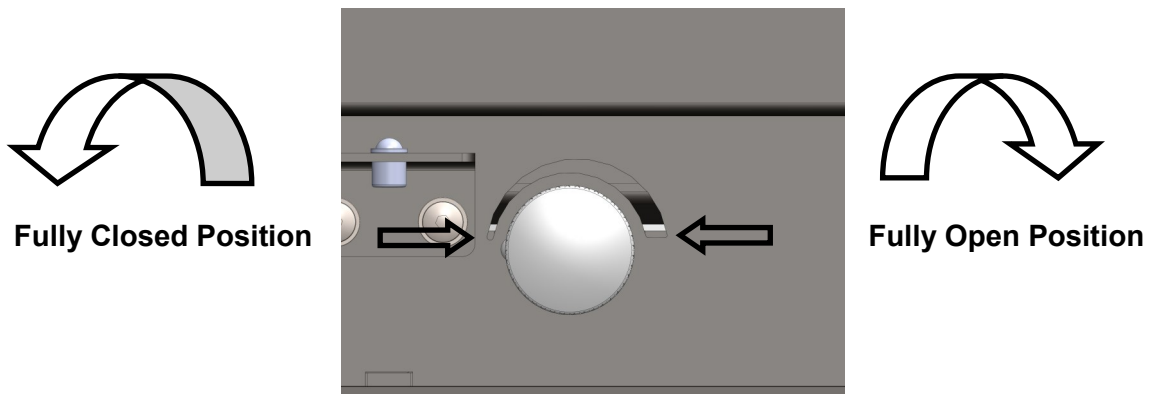
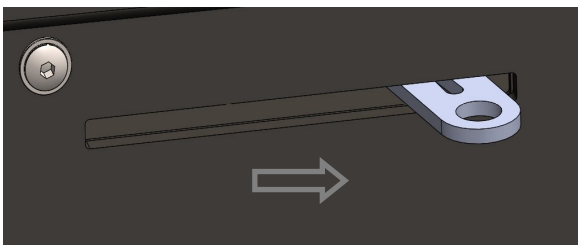
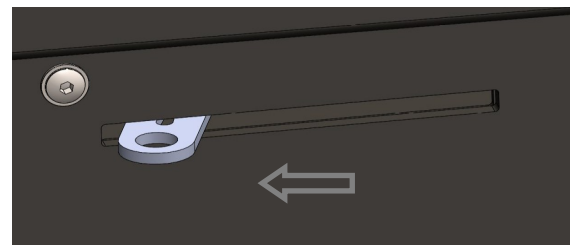

Fig. 1. Primary Air Control
Fig. 2. Fully Open Position
Fig. 3. Fully Closed Position
The control of the thermostatic damper is via a rotary knob, turning this knob clockwise raises the damper and therefore increases the amount of air entering the firebox. Again vice-versa, turning the knob anti-clockwise lowers the damper and reduces the amount of air, so in turn reducing the rate of burn, see Fig. 1.
Sliding the control lever to the right as far as it will go, achieves the fully open position, see Fig. 2. Sliding it to the left will shut down the air inlet slots as shown in Fig. 3.
Solid fuel burns best with its air supply for combustion coming from underneath the fuel. To achieve this, the burn will be controlled by the primary air control thermostat (see Fig 1).
- 1) Set the air wash (secondary) (see Fig 2 & 3) air slider to about one quarter open and the primary air / thermostat fully open (see Fig 1).